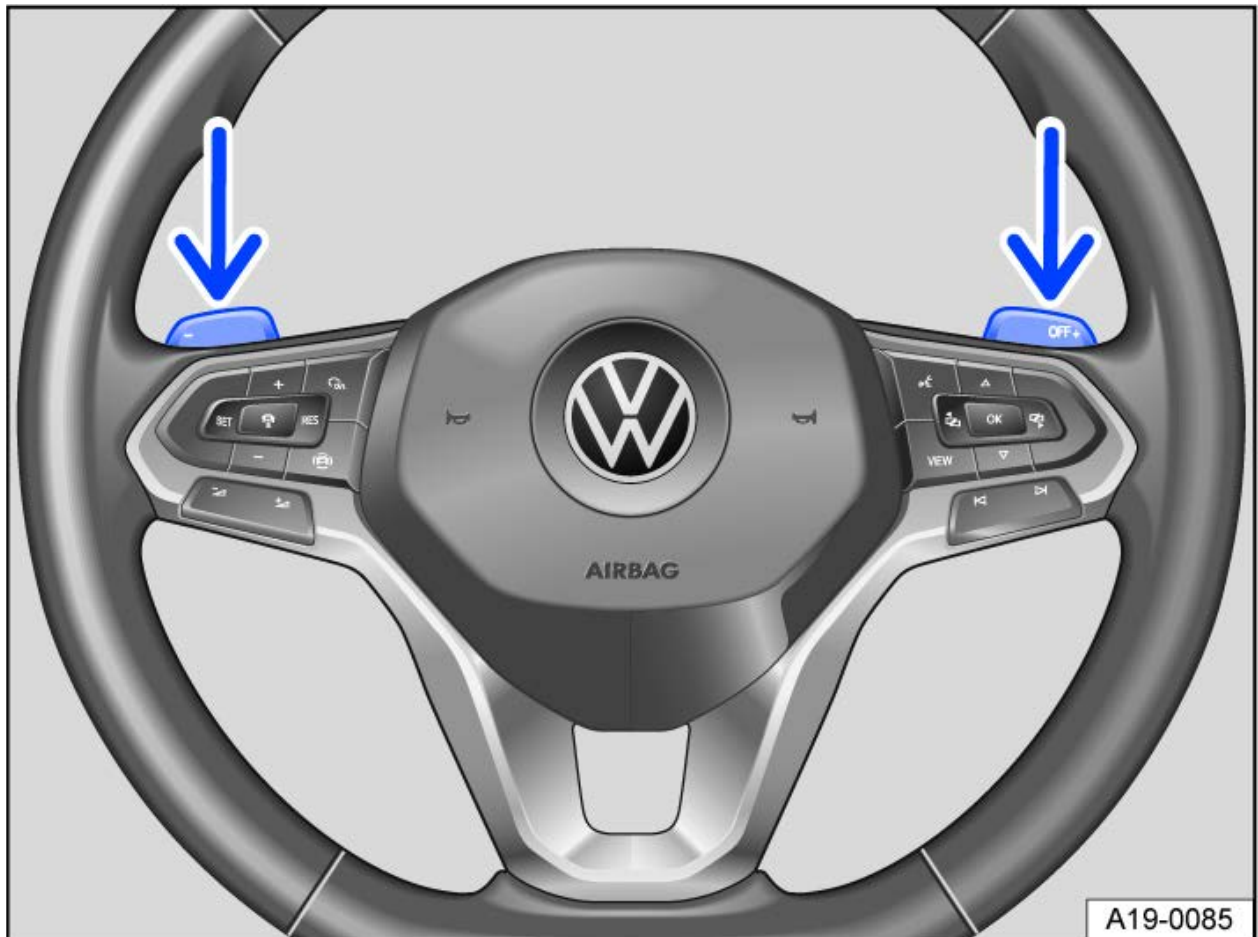

Fig. 1 Steering wheel with paddle for the Tiptronic.
- Pull the right-hand paddle towards the steering wheel to upshift → *fig. 1*.